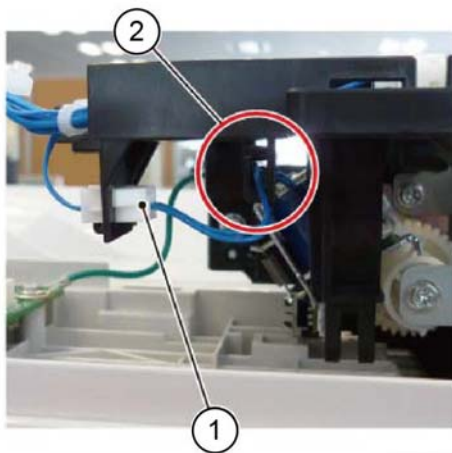

Figure 3 Solenoid harness
6. Disconnect the solenoid, Figure 3:
- a. Disconnect the connector (1).
- b. Remove the harness from the harness guide (2).